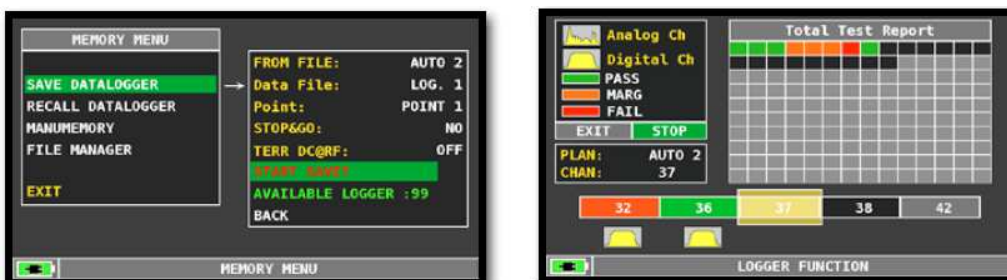

Fig.5 Logger in progress with the corresponding measurements results. At the end of the logger the meter will ask if to display the logger results.
- **CONTINUOUS**: this makes the logger run without end, looping through the programmes in the CHN file until it is not manually stopped. This allows continuous testing on a set of memorized programmes while making changes to the distribution parameters until the proper results are not obtained (all green squares!, rif. Fig.5).
RED = FAIL, AMBER = MARGINAL, GREEN = PASS. Ref. Fig. 5.